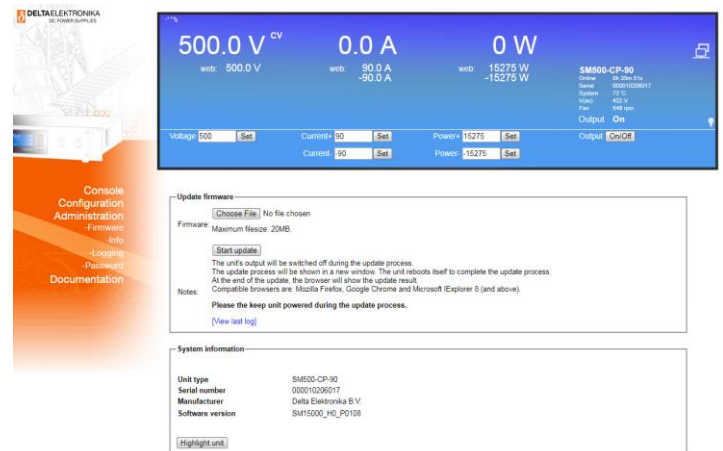

Figure 6.11: Via the web interface the downloaded firmware package can be uploaded to the unit
- The unit can be updated via the web interface, see Figure 6.11.